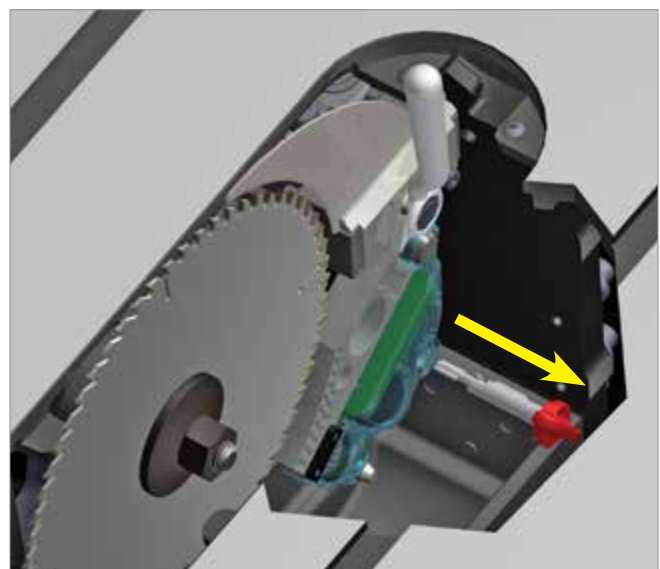

Fig. 49
Removing a Brake Cartridge: to remove the cartridge, first remove the cartridge key by turning it 90° clockwise and then pulling it away from the cartridge (see Fig. 49). Set the cartridge key aside for use with the new cartridge.
Next, align the cartridge key with the hole in the cartridge housing. See Fig. 49. The key shaft has a ridge that must be aligned with a recess in the key hole in the housing. As a result, the key can only be inserted into the hole when the red handle is pointing toward the brake pawl. Press the cartridge key fully into the cartridge and rotate the key 90° counter-clockwise to lock the cartridge in place. The key will not rotate unless it is fully seated against the side of the cartridge housing and the cartridge housing is pressed against the cartridge mounting bracket.